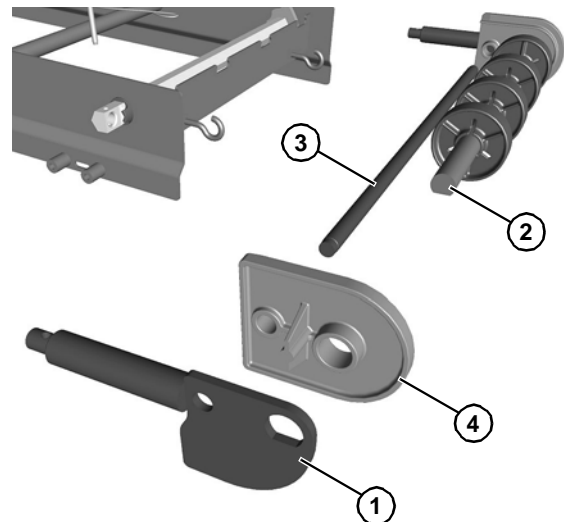

Figure 64
3. Remove the shaft assembly (Figure 64, item 1) from idler shaft (Figure 64, item 2) and pinch guard shaft (Figure 64, item 3).
4. Remove tracking plate (Figure 64, item 4) from idler shaft and pinch guard shaft.
5. Remove pinch guard shaft (Figure 64, item 2).